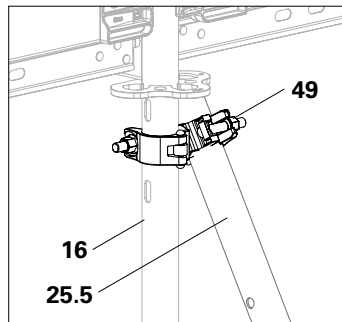

Fig. D7.05a
4. Fit the inner tube onto the outer leg of the Easy Frame (16) using a swivel coupling (49) while positioned on the second scaffold level. Push the coupling as close as possible to the rosette and tighten. (Fig. D7.05a)
6. Fit the inner tube (25.2) onto the rear hole (26.4) of the base plate by means of bolts (27) and nuts (28).